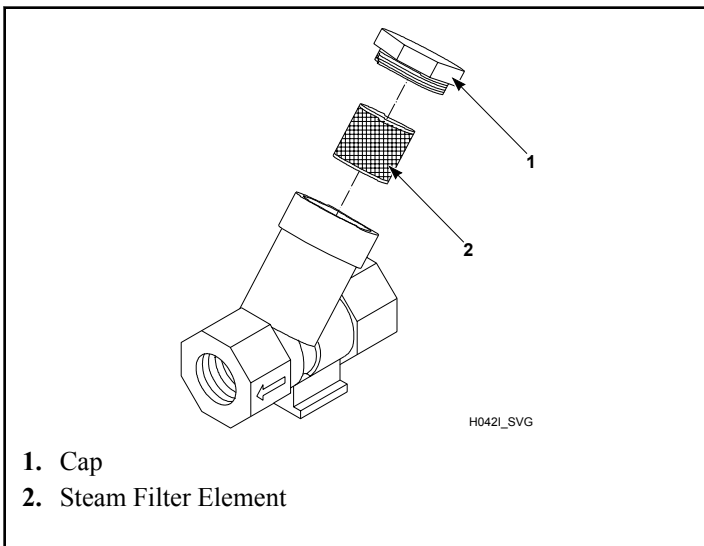

Figure 44
5. Clean customer-supplied steam filter, where applicable. Refer to *Figure 44* .